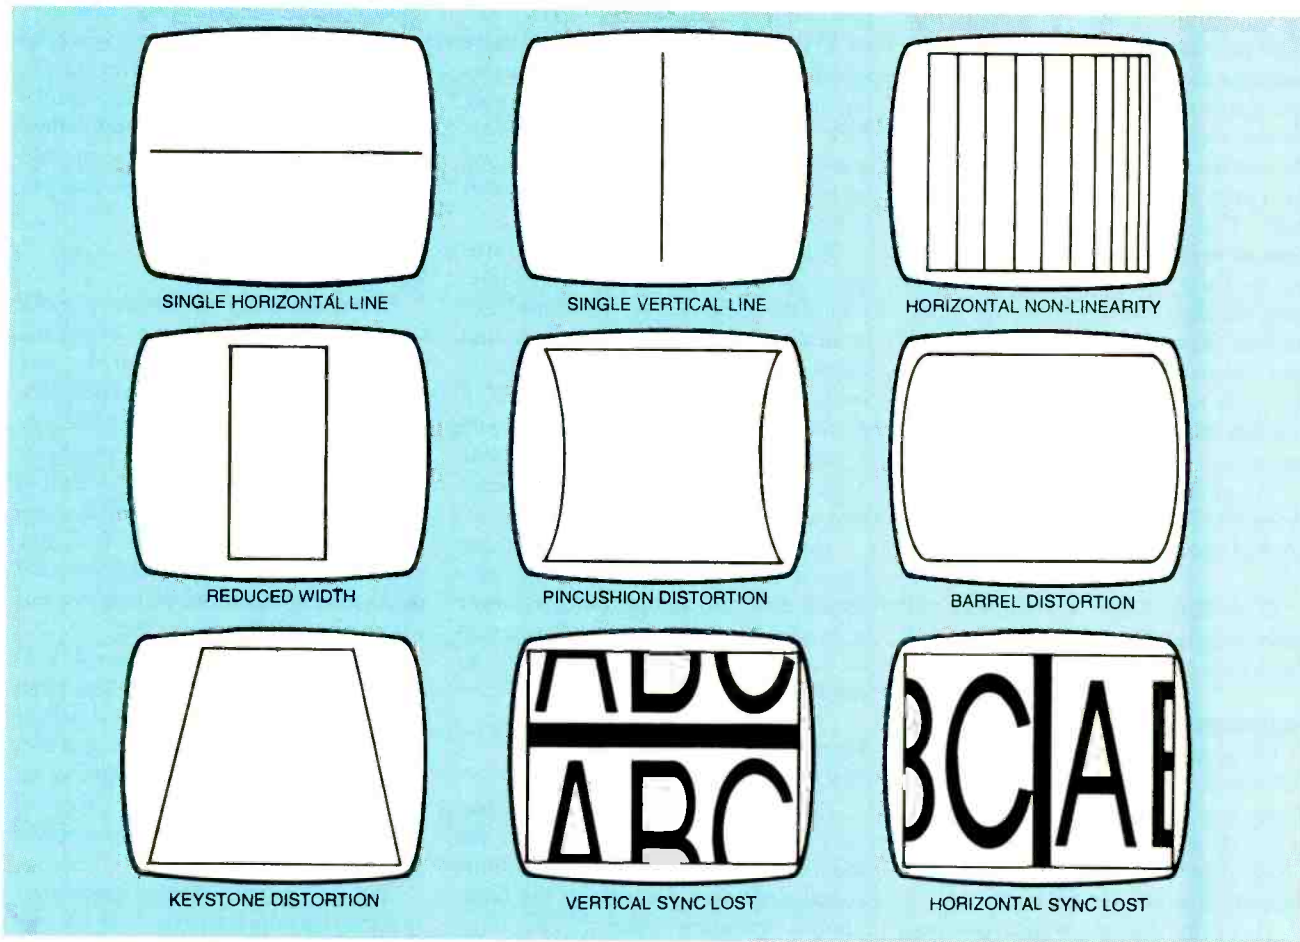

FIG. 1—PROBLEMS IN THE DEFLECTION CIRCUITS can present many different symptoms. Here are how some of the most common symptoms look.
solutions. To help you identify the symptom, some of the most common ones are shown in Fig. 1.
- Lack of horizontal sync—picture drifts smoothly horizontally: This may mean that the horizontal sync signal is missing due to a bent, pushed in, or broken connector pin; another bad connection; or a fault in the sync-processing circuitry. Note that depending on the difference between the video horizontal rate and the free-run frequency of the horizontal oscillator, the picture may be torn left or right or have multiple images superimposed horizontally—the diagram in Fig. 1 is the special case where they are virtually the same.